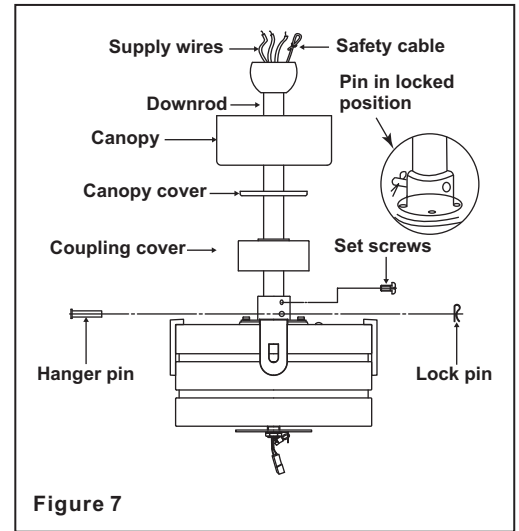

Figure 7
**Step 5.** Remove the hanger pin, lock pin and set screws from the top of the motor assembly. (Fig. 7)
**Step 6.** Route the safety cable and wires exiting from the top of the fan motor through the coupling cover, canopy cover and canopy and then through the ball / downrod. (Fig. 7)
**Step 7.** Align the holes at the bottom of the downrod with the holes in the collar on top of the motor housing (Fig. 7). Carefully insert
the hanger pin through the holes in the collar and downrod. Be careful not to jam the pin against the wiring inside the downrod. Insert the locking pin through the hole near the end of the hanger pin until it snaps into its locked position, as noted in the circle inset of Fig. 7.
**Step 8.** Tighten two set screws on top of the fan motor firmly. (Fig. 7)